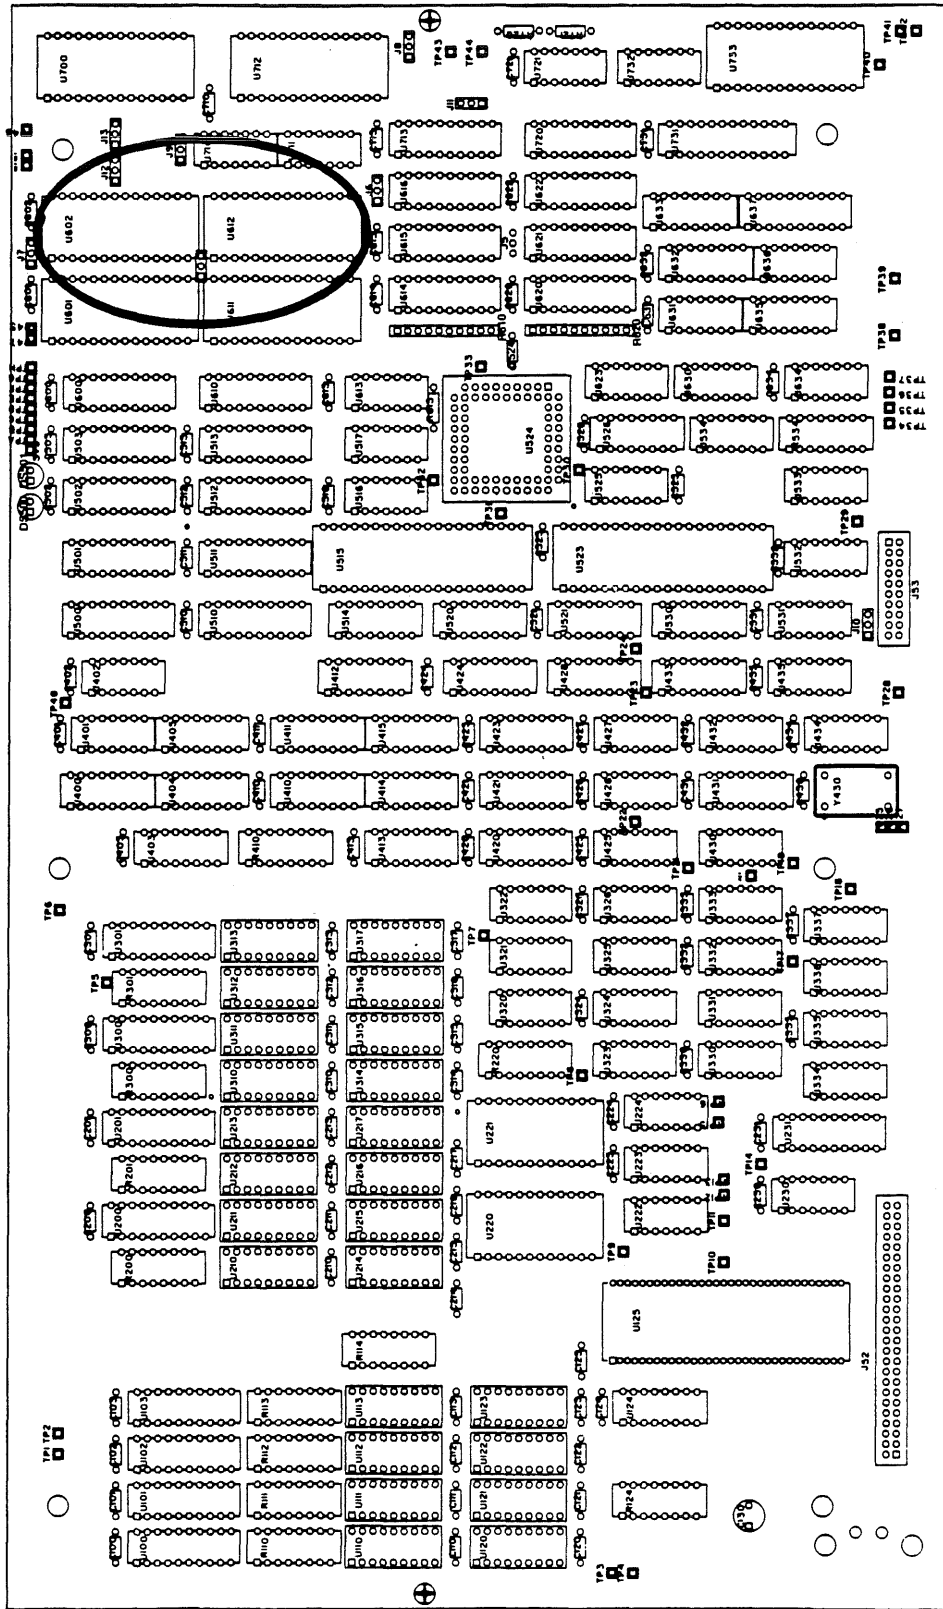

Figure 2. A7 Display Controller Board.
- c. Locate the A7 Display Controller Board (670-8848-xx ; see Figure 2 at the end of these instructions). The Display Controller Board is horizontally positioned above the plug-in compartment.
- d. Locate the two EPROM's, located near the near right corner (as viewed when facing the instrument; see Figure 2). The circuit numbers for these components are U602 and U612.